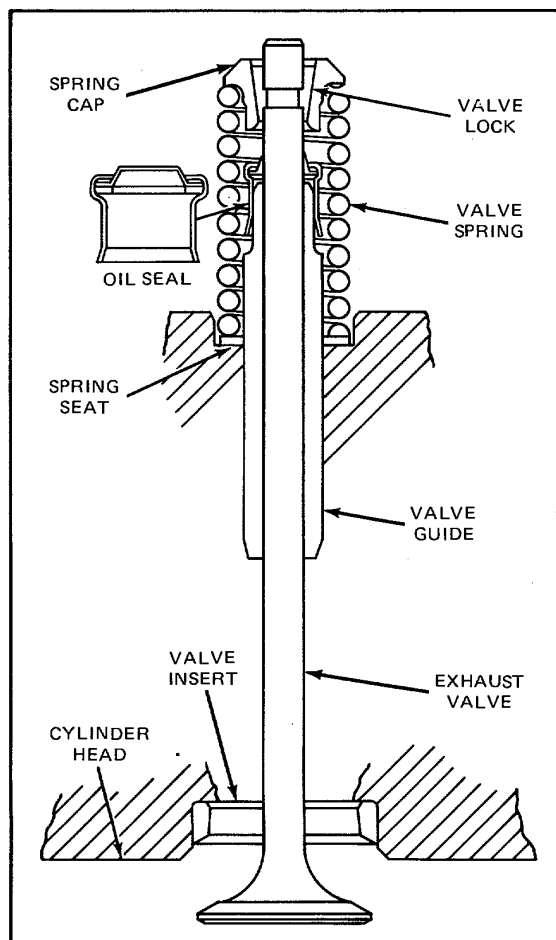

Figure 17. Current Valve Guide Oil Seal
- (1) Place the plastic seal installation cap on the end of the valve stem. If the cap extends more than 1/16 inch below the groove on the valve stem, remove the cap and cut off the excess length.
- (2) Lubricate the installation cap and start the seal carefully over the valve stem. Push the seal down slowly until it rests on top of the valve guide.
- (3) Remove the installation cap.
- b. Current Oil Seal (Fig. 17) (metal case and reduced inner diameter)